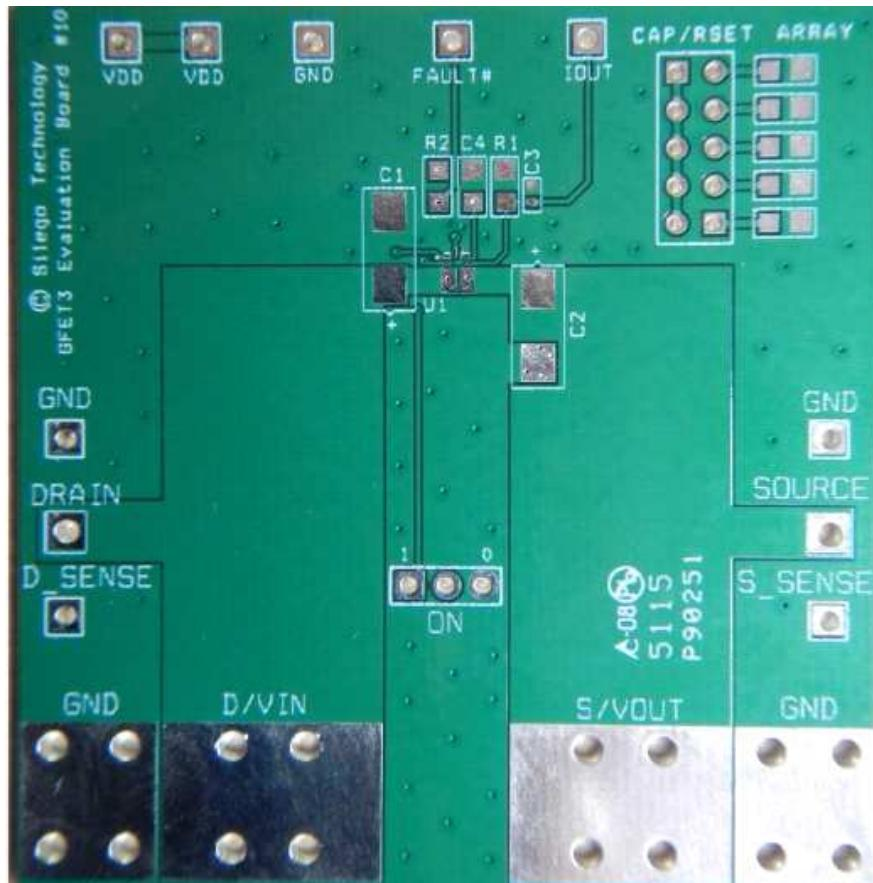

Figure 13. SLG59M1707V Evaluation Board
2. Since the VIN and VOUT pins dissipate most of the heat generated during high-load current operation, it is highly recommended to make power traces as short, direct, and wide as possible. A good practice is to make power traces with absolute minimum widths of 15 mils (0.381 mm) per Ampere. A representative layout, shown in Figure 13, illustrates proper techniques for heat to transfer as efficiently as possible out of the device;
A GreenFET Evaluation Board for SLG59M1707V is designed according to the statements above and is illustrated on Figure 13. Please note that evaluation board has D\_Sense and S\_Sense pads. They cannot carry high currents and dedicated only for RDSON evaluation.